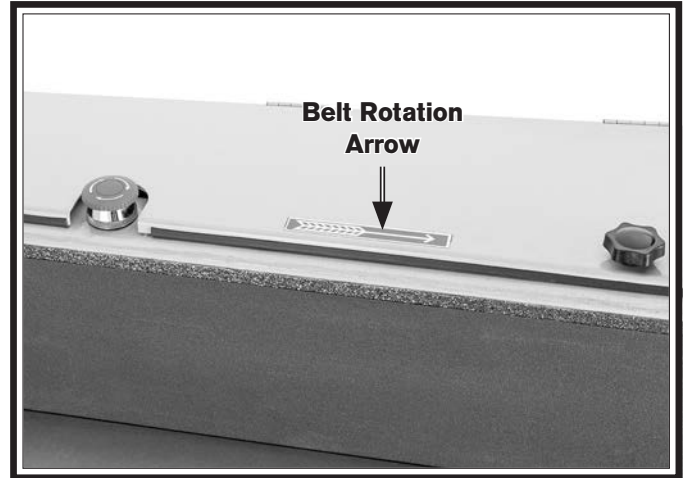

Figure 38. Sanding belt rotation arrow.
7. Remove old sanding belt and replace with new one, being sure arrows on belt match arrows of belt rotation on machine (see **Figure 38**).